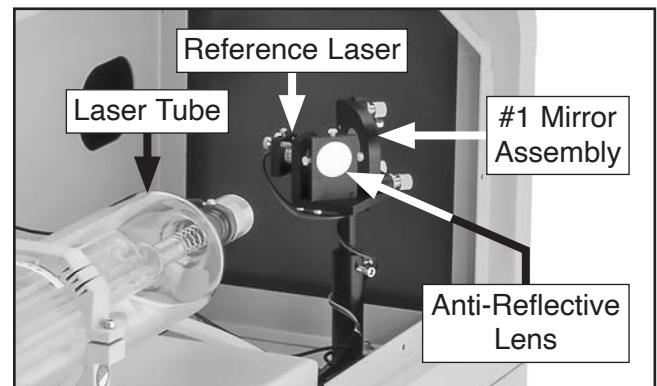

Figure 118. Reference laser components.
2. Locate reference laser on Mirror #1 assembly (see **Figure 118**).